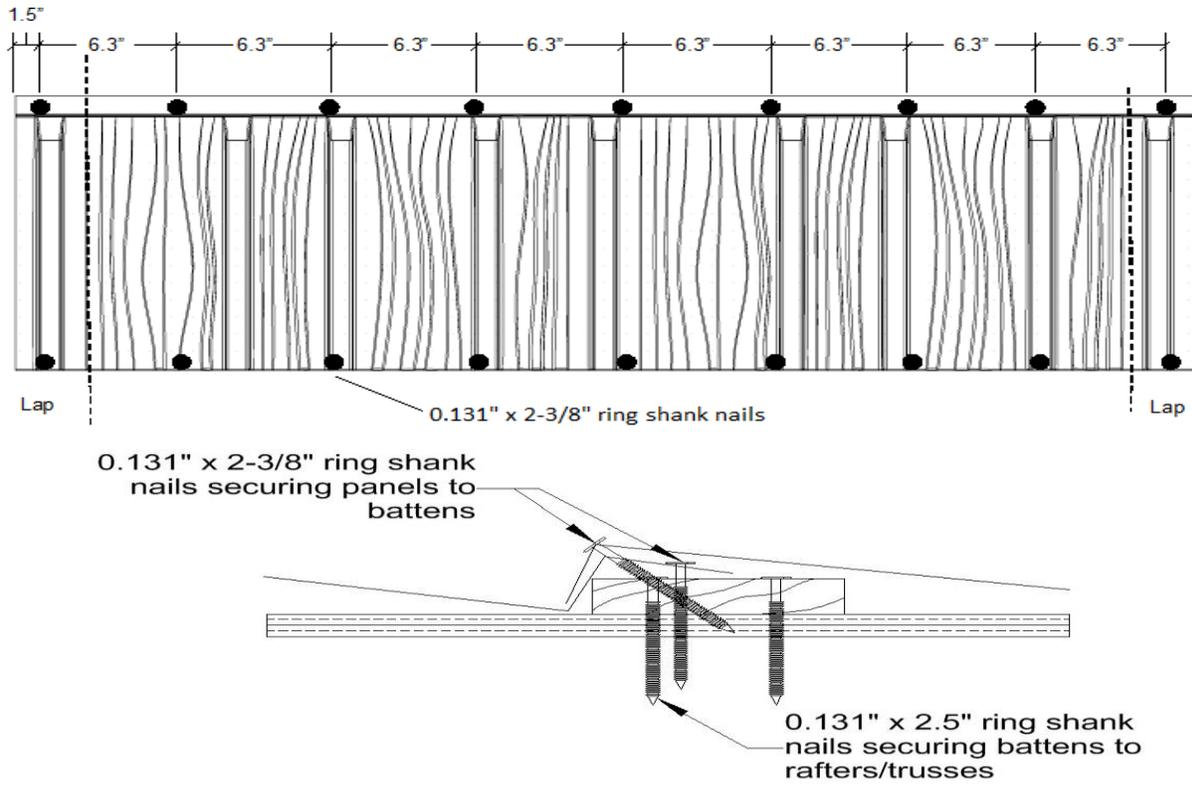

Figure 8: Terrabella Shake® To Battens
**Panel Attachment:** The panels are secured with nine 0.131" x 2-3/8" ring shank nails secured along the back flange and nine 0.131" x 2-3/8" ring shank nails through the nose of the panel at the panel overlap. One nail is placed at each panel side lap approximately 1.5" from the panel edge. The remaining seven nails are placed approximately 6.3" o.c. Refer to Figure 8 for attachment details.